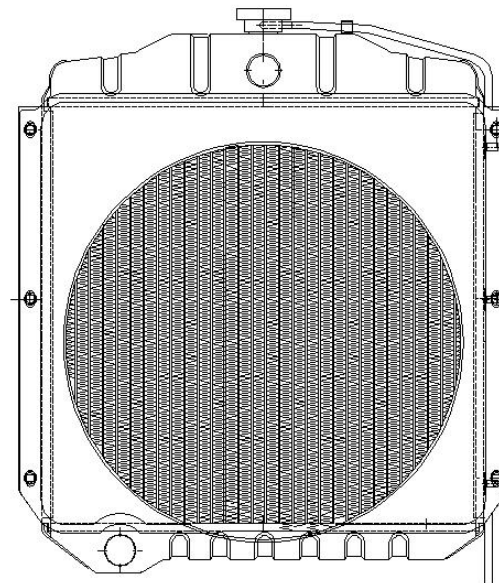

Fig. 5-11
Povremeno proverite da hladnjak nije začepljen ① (Fig. 5-11). Clean with a jet of compressed air directed from the inside towards the outside.